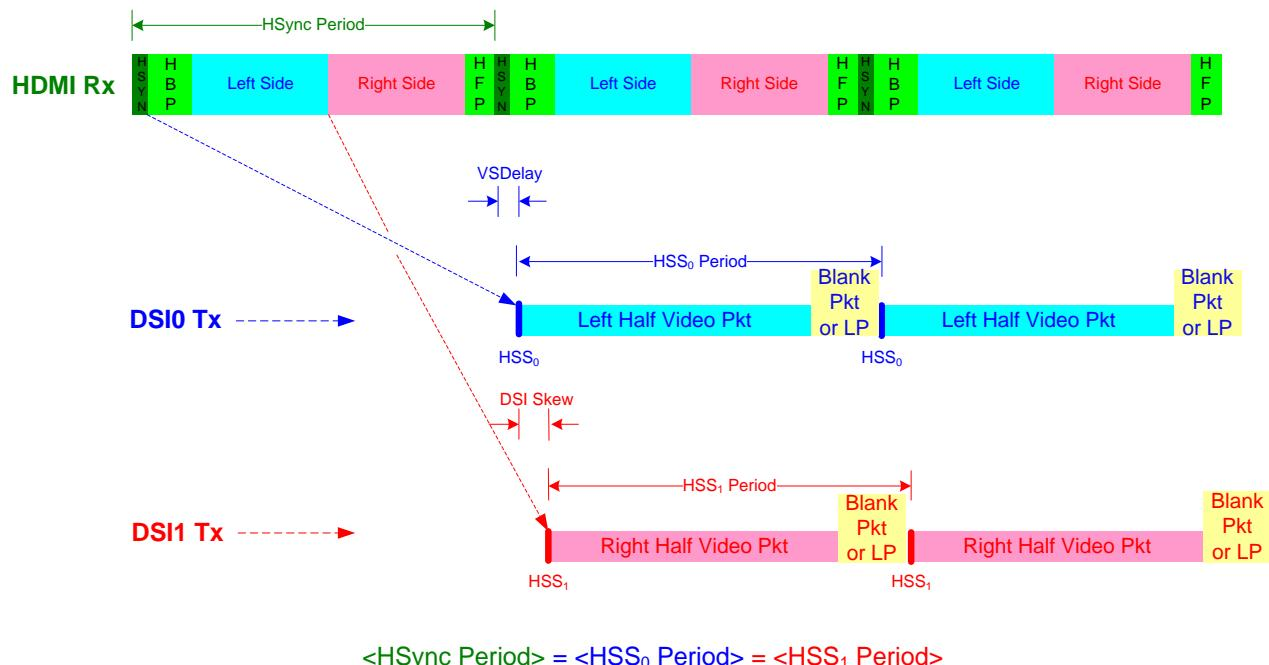

Figure 3.2 Line Splitting for Dual DSI Link
5. The splitting for DSI Tx is shown graphically in Figure 3.2.